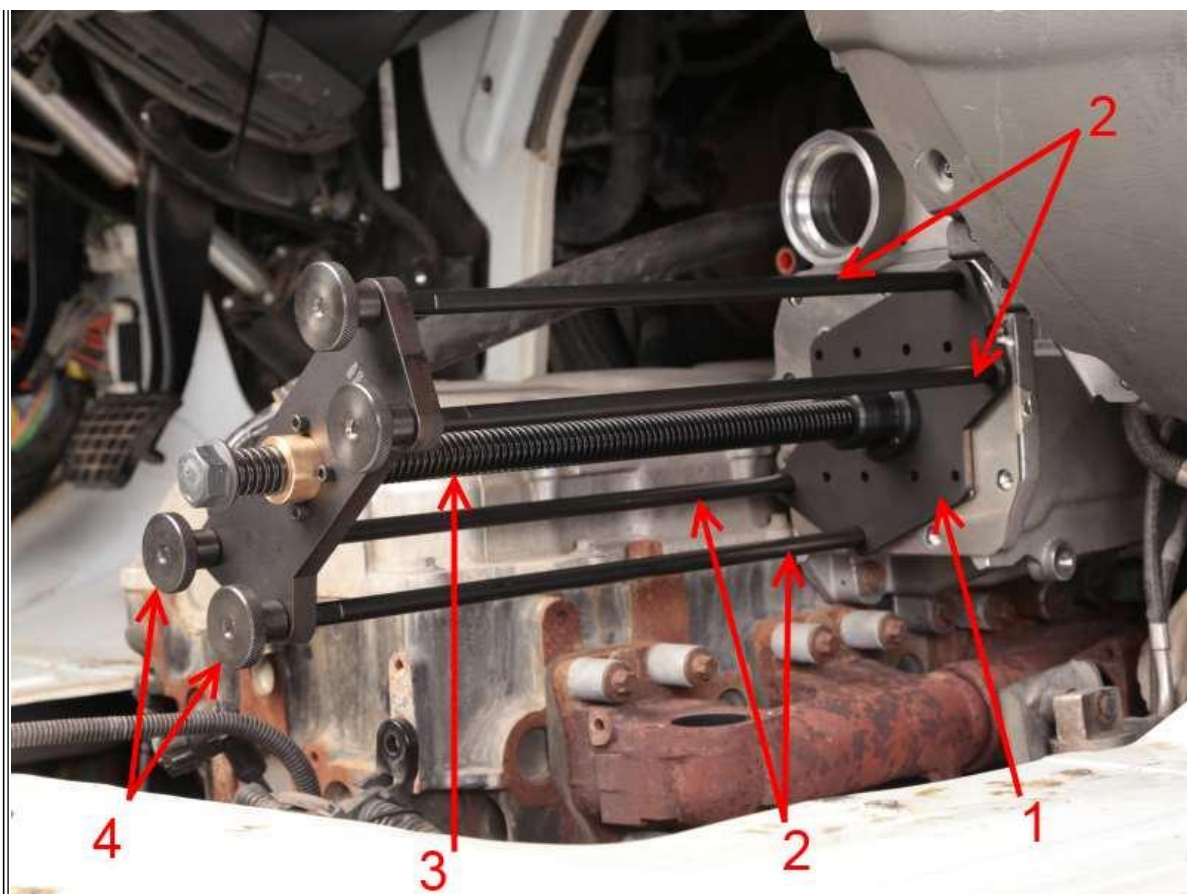

Figure 2: HT Core Removal Tool
a. Screw in the support rods in the two upper right, and lower, bottom left corner, holes (**Figure 2**, Item 2). **Tighten using a 9mm open-end wrench.**
c. Attach/tighten the thumb screws (**Figure 2**, Item 4).